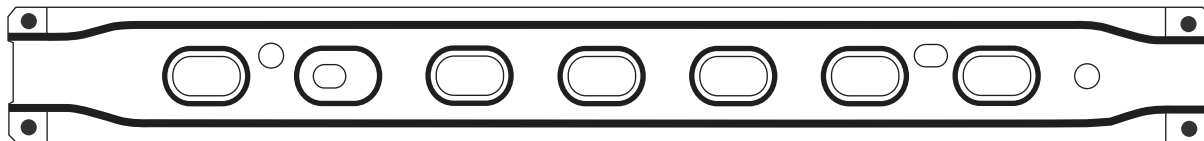

FIGURE 1
- Four (4) black dots represent the location of the blind rivets (W707638-S900C) (Refer to Figure 1).